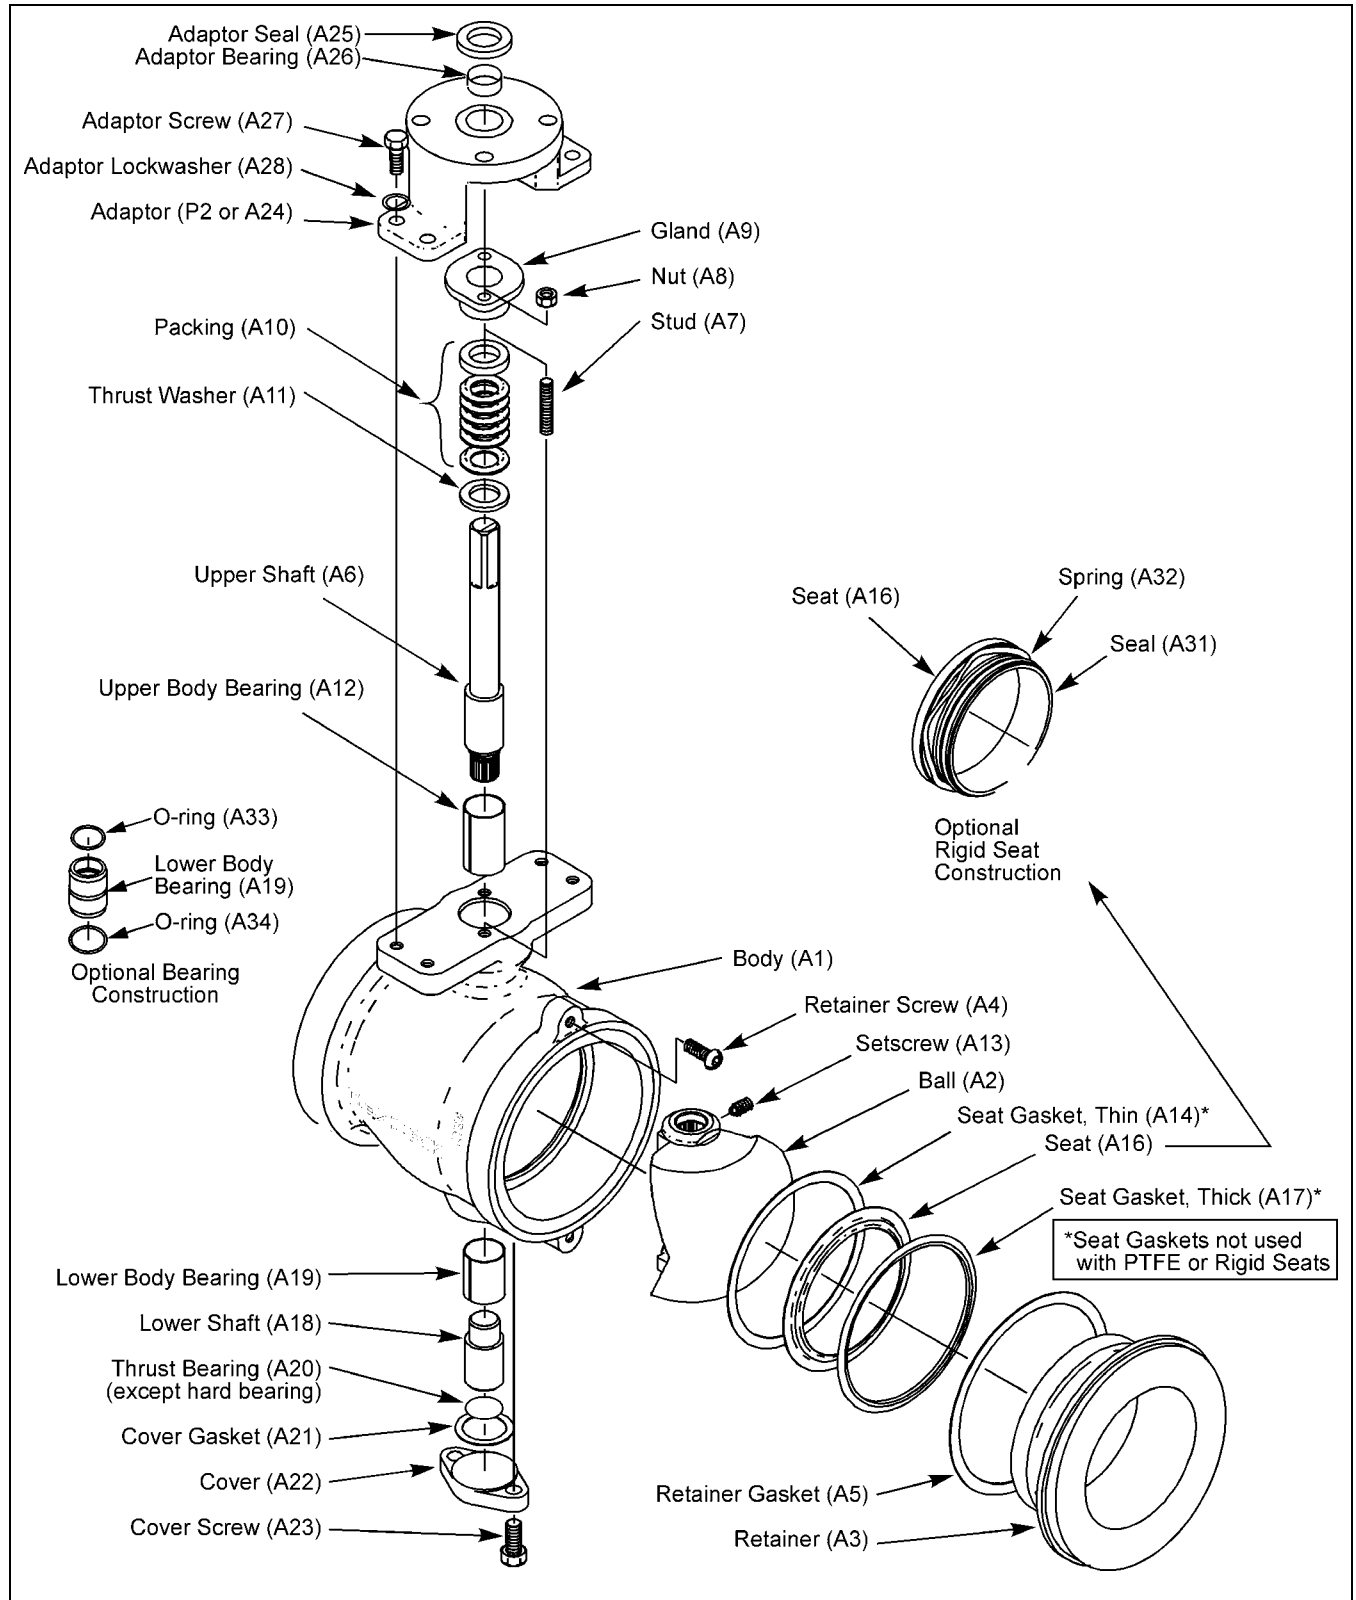
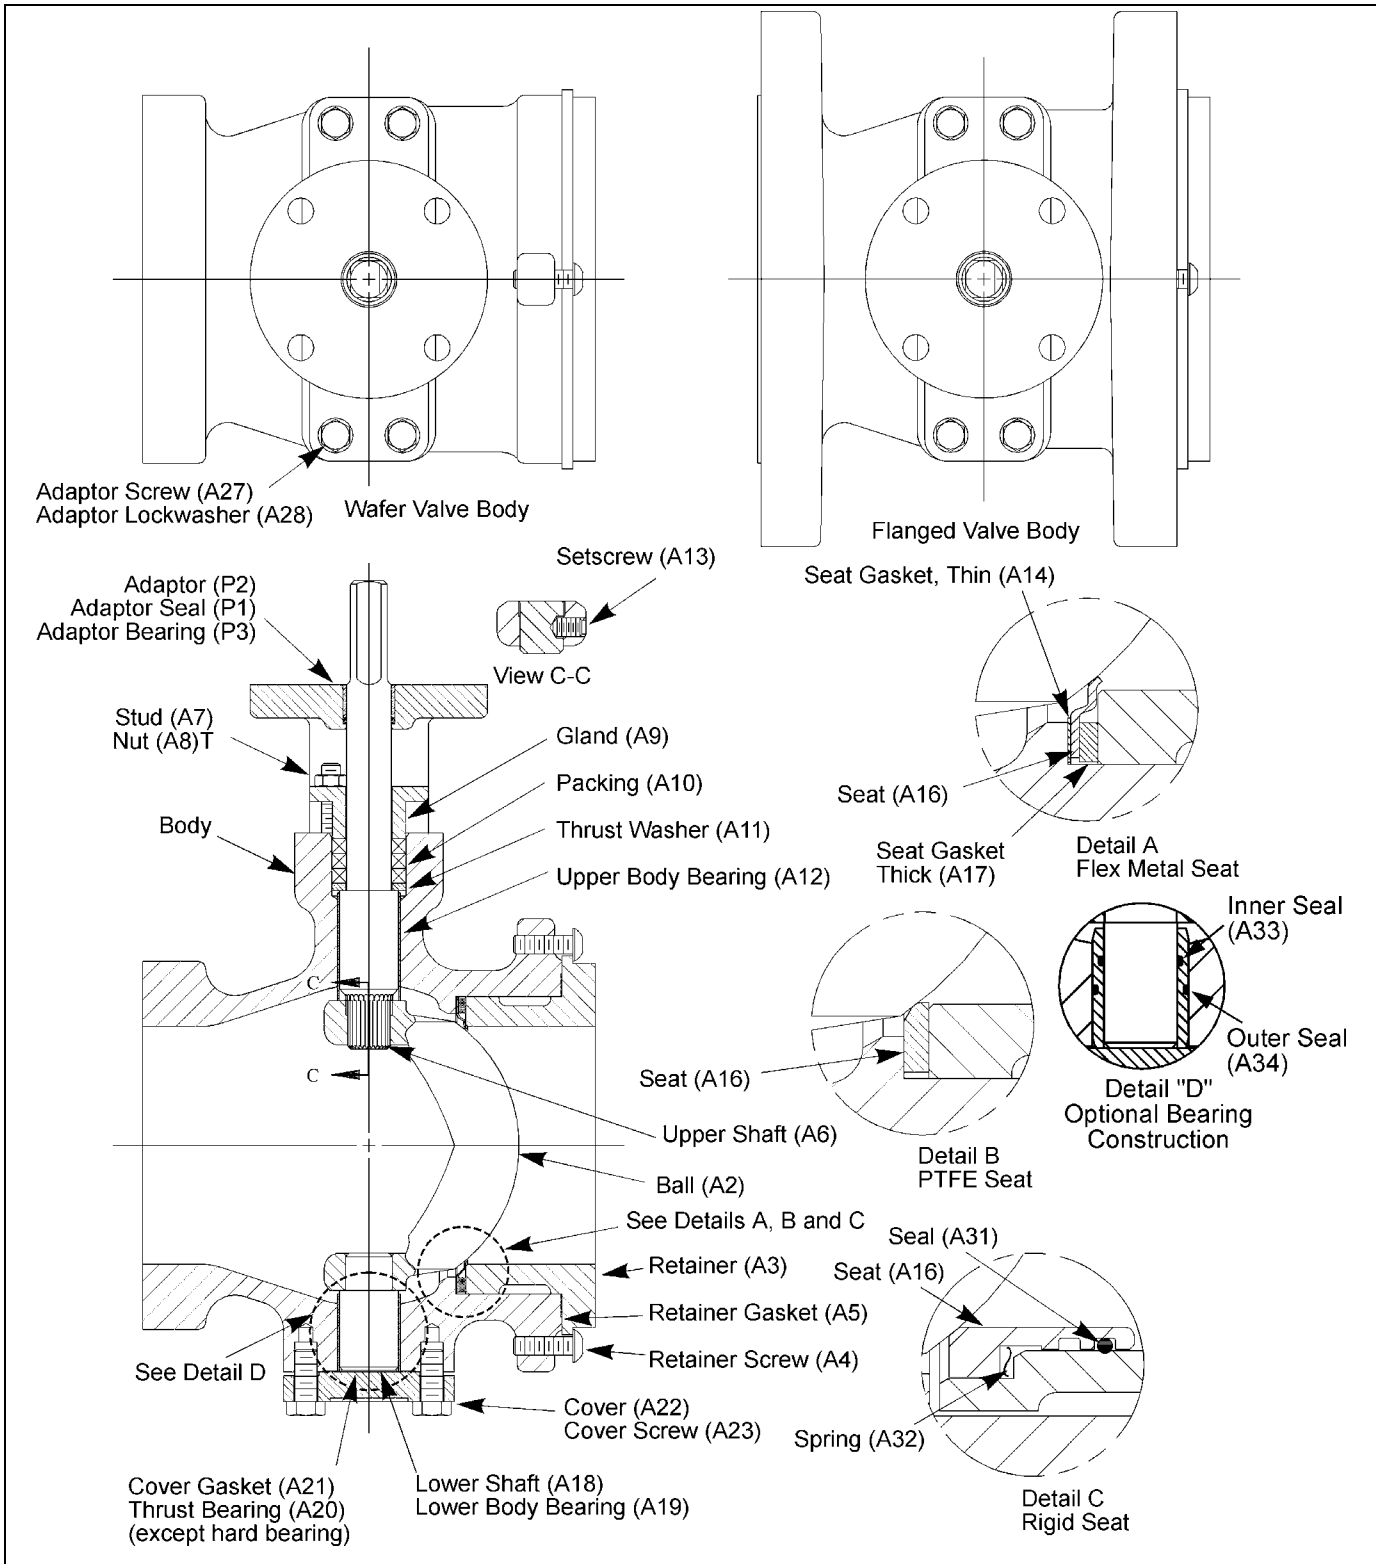

Figure 1 – Component Identification Disassembled
Figure 2 – Component Identification Assembled
The valve is fully closed when the ball is centered on the seat, and the valve is fully open when the ball is 90 degrees counterclockwise from the closed position. The open and closed positions are determined by the actuator. Refer to the Actuator Instructions for adjusting the open and closed position stops. A line is stamped on the top of the valve stem to indicate the angular position of the ball when the ball is not visible. See the top of the shaft in Figure 1.
The shaft seal consists of packing in the packing chamber of the body. The packing is contained and compressed by the packing gland. If the packing leaks, tighten the adjustment nuts (A8) on top of the packing gland (A9), shown in Figure 2. Tighten the nuts evenly and gently — just enough to stop the leakage. Over-tightening will cause excessive operating forces, and will decrease the life of the packing.
See Figure 1 and Figure 2 for parts identification.
- b. Place the seat against the closed ball as shown in Figure 2, Detail A.
- a. Place the seat (A16) into the bore of the body with the beveled side of the seat against the closed ball as shown in Figure 2, Detail B.
- e. Insert the seat (A16) into the retainer (A3). See Figure 2, detail "C."
The valve may be disassembled and reassembled by following the steps in the next two sections. All parts should be inspected for wear, and worn parts should be replaced. Refer to Figures 1 and 2 for component identification.